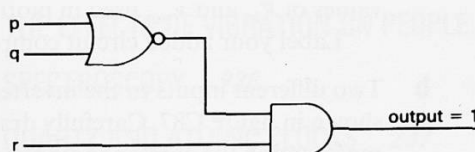

Figure C81
- 32(R)** A NOR gate has two inputs,  $p$  and  $q$ . The output of the NOR gate and a third input,  $r$ , are the inputs to an AND gate (figure C81).